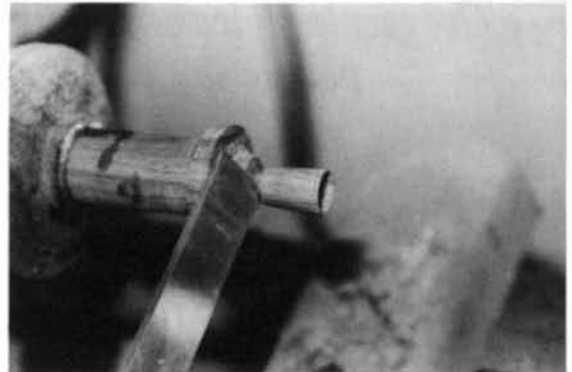

Figure 5. Making the thimble.
11. With a 1/4-inch round-nose chisel, taper the inside of the thimble from the bottom of the hole out to 1/2-inch I.D. at the opening. Cut the outside with a sharp skew chisel, and cut some cut-rings so that it looks like a thimble. The last few cuts should produce a nice whistle to tell you it is "thin enough" (Figure 5).